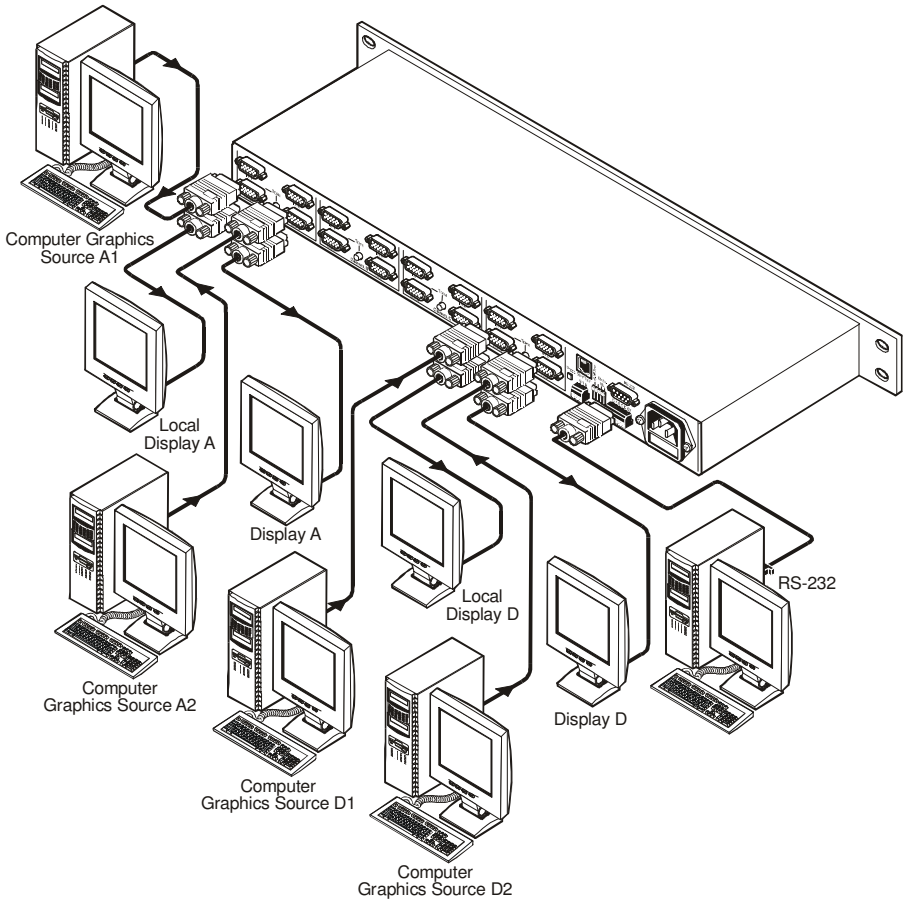

Figure 3: Connecting the VP-214DS
To connect the **VP-214DS 4 Channel Automatic XGA Switcher**, connect the following to the rear panel (see Figure 3):
2. Connect the power cord3 (not shown in Figure 3)